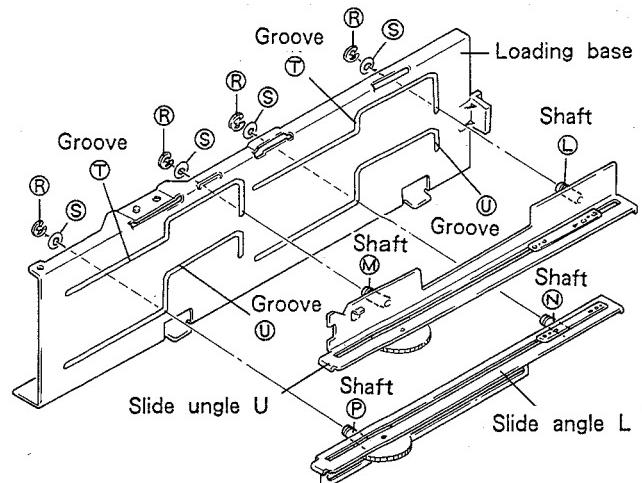

Fig. 10-2.
As shown in Fig. 10-2, slide angle U and slide angle L have shafts ① and ② and shafts ③ and ④ respectively, and E-rings ⑤ and washers ⑥ are used to attach these angles to loading base.